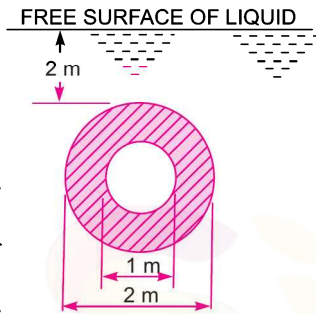

Fig. 3.62
27. Determine the total force and location of centre of pressure on one face of the plate shown in Fig. 3.62 immersed in a liquid of specific gravity 0.9. [Ans. 62.4 kN, 3.04 m]